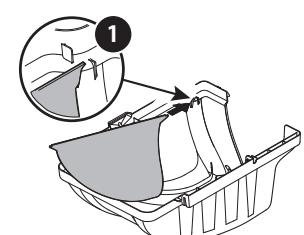

Figure 10
- If not already done so by the factory, install the screen (731-06504) into the bagger cover (631-04292) by first inserting the end closest to the side with the cut-out (1) into the mounting hole, as in Figure 10.